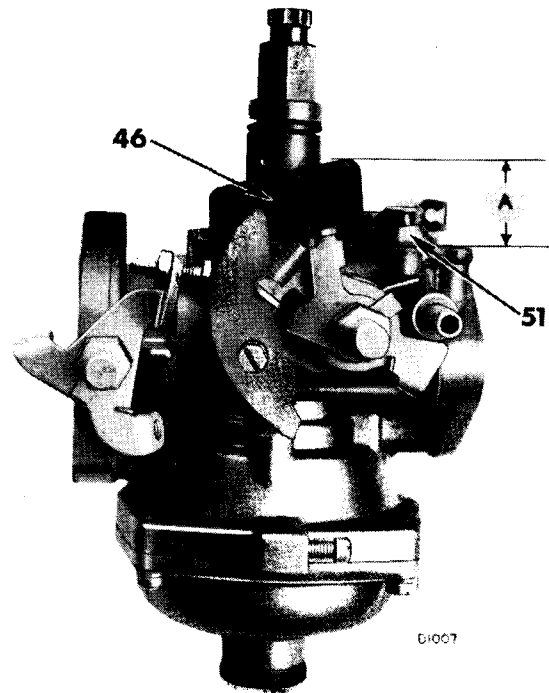

Fig. 7. Measuring float height
7. Insert the spindle (29) into the bore of the carburettor, centralise the spindle and rotate it to bring the two counter sunk holes upwards. Ensuring that the two raised "pips" on the face of the valve are upwards and outwards, slide the valve into the slotted spindle until the "pips" contact the spindle. Turn the spindle to close the throttle and secure the valve by securely tightening two screws (17).
8. With the larger coils leading, place the spring (20) over the throttle spindle boss, at the same side as the choke cam lever. With the butterfly in the closed position, engage the stop lever (62) over the flats on the spindle, simultaneously engaging the ends of the spring as shown on Fig. 7, to ensure that the valve is spring loaded in the closed position. Fit the lockplate (63), tighten the coupling nut (64) and secure by turning the lockplate.
9. Locate the throttle stop lever (21) on the flats of the throttle spindle, at the opposite end to the actuating lever, followed by the connecting link (58). Secure the lever and link with a lock washer and nut.
Float Chamber (Fig. 7)
10. Placing an aluminium washer (52) over the threads of the needle valve (51) screw the valve firmly into the carburettor body.
11. Place the float assembly (46) into position and secure it with the fulcrum pin (45) as shown on Fig. 7. Check that the highest point of the float when the needle is against its seating, is 18 mm. above the face of the main body. See "A". Reset the level by carefully bending the tag which contacts the end of the needle. The addition of a thin fibre washer under the needle valve seat will lower the fuel level.